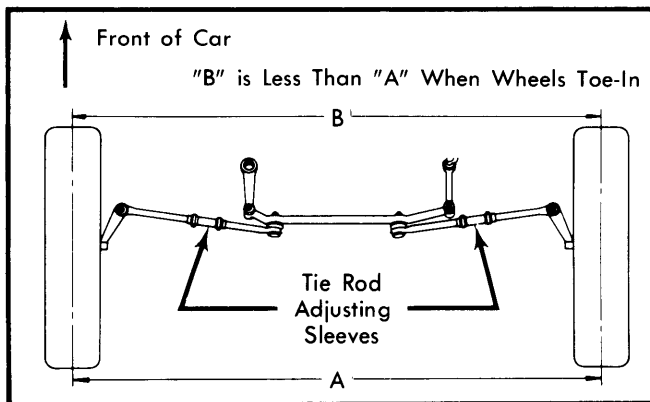

Fig. 2 Adjusting Tie Rod Sleeves (Top View)
- Ensure that steering wheel is centered with front wheels in straight ahead position. If required, shorten one tie rod adjusting sleeve and lengthen opposite sleeve. See Fig. 2.